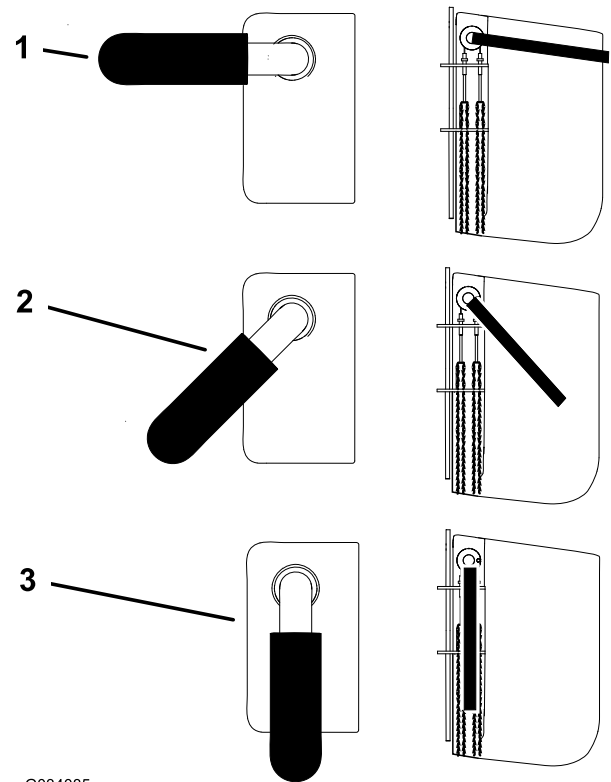

Figure 11
- Rotate the chute gate handle to the open position to allow grass clippings to discharge (Figure 11).
- Rotate the chute gate handle to the 45 degree angle to deflect the grass clippings (Figure 11).
- Rotate the chute gate handle to the closed position to stop the grass clippings (Figure 11).